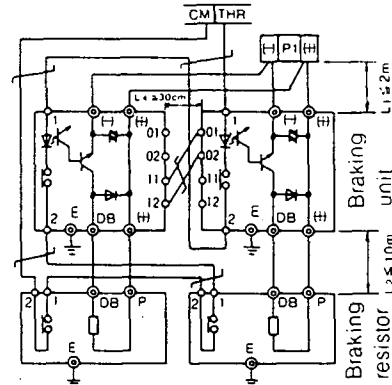

Fig. 5-4-1 Connection for Braking unit and for Braking resistor
- ① As shown in Fig. 5-4-1 the number of braking units and braking resistors in the combination differs in the type of unit. Connect them as the instruction of the Table 12 (2) Braking unit and Braking resistor specifications (Page 63, 64).